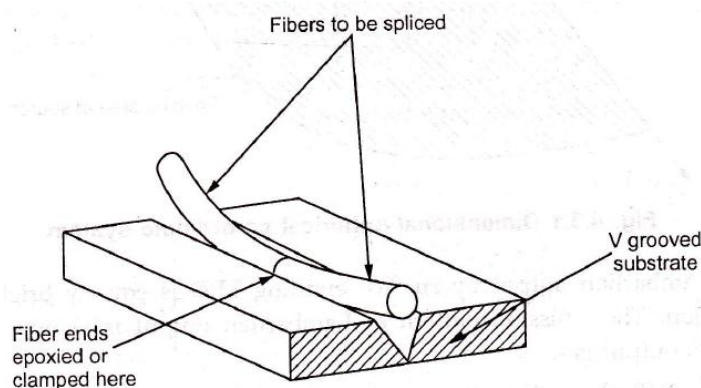

Fig. 4.2.2 V groove optical fiber splicing technique
- V groove mechanical splicing provides a temporary joint i.e fibers can be disassembled if required. The fiber ends are butted together in a V – shaped groove as shown in Fig. 4.2.2.